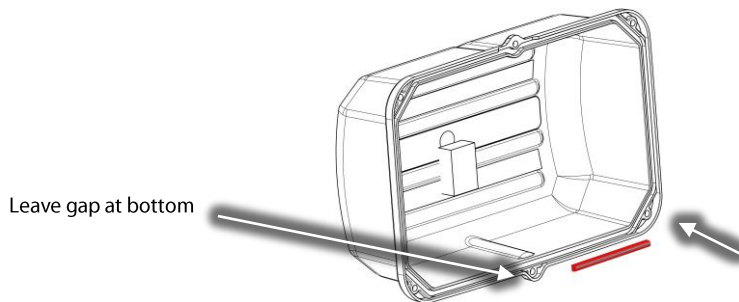

Figure 18 – New “D” Seal Installation – Capacitor Cover
- Install the new “D” seal into the Service Side Cover. Begin at the bottom just to the right or left of the center. Work the seal around until you reach the other end and have a small gap at the bottom. Cut the seal (90 degrees from the side of the seal). Refer to Figure 18 (New “D” Seal Installation – Capacitor Cover).